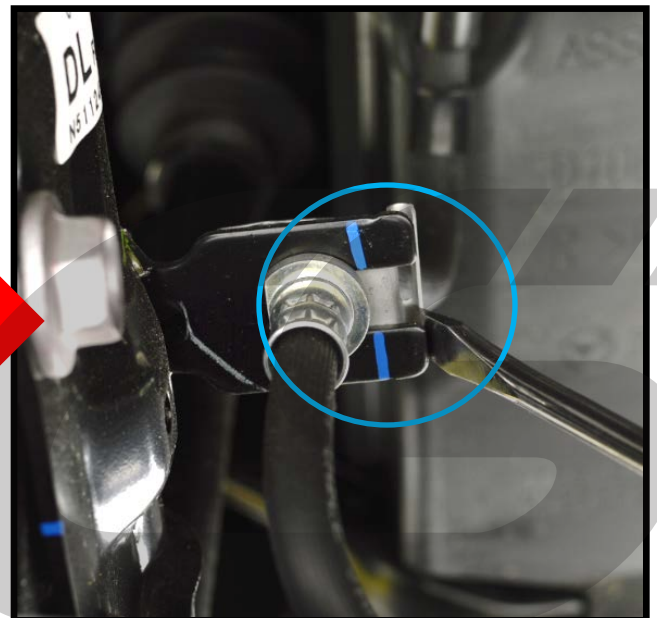

Figure 1c
- d) Remove the strut to upright bolts. Use a 17mm and 19mm to loosen and remove the two bolts. **Blue circles in Figure 1c.**